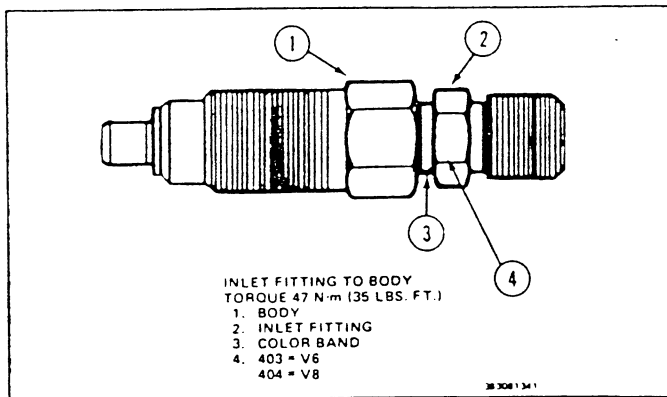

Fig. 6C5-41 Injection Nozzle
4. Attach the lines using a back-up wrench on the upper injection nozzle hex. Tighten the line nut to 34 N·m (25 lbs.-ft.) (Figs. 6C5-22 or 6C5-23).